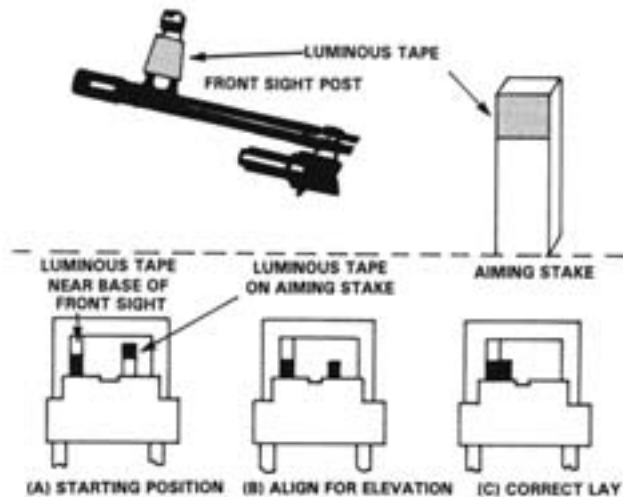

Figure 6-32. Field Expedient—Aiming Stake Method.
(2) **Aiming stake method.** Luminous tape, luminous paint, or some other suitable material is needed to use this technique. After the gun has been laid to hit the target, the following procedure is used. See figure 6-32.